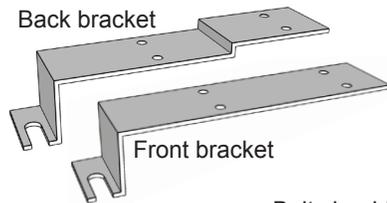

Fig 2
4. Attach the front and back brackets to both chairs. With bolt inserted fully into slot, as shown in figure 2, retighten bolts securely.